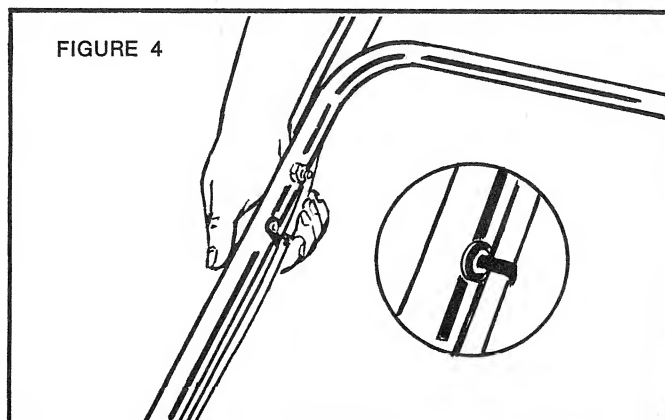

FIGURE 4
4. Plastic straps hold cord close to handle (Figure 4). Bend each strap around cord and push peg at outer end of strap into hole in inside end of strap where it is fastened to handle.